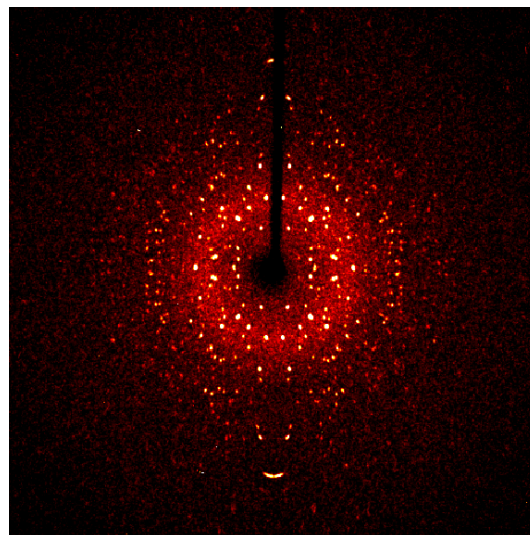

Figure 5.19 - A 360° Phi scan on a good quality crystal
5. Click "Drive + Scan". Since these are evaluation scans, there is no need to request correlated images or new darks. The resulting Phi 360° image is shown in Figure 5.19. The crystal diffracts nicely with lots of sharp spots. Figure 5.23 shows a Phi 360° scan with a bad crystal.